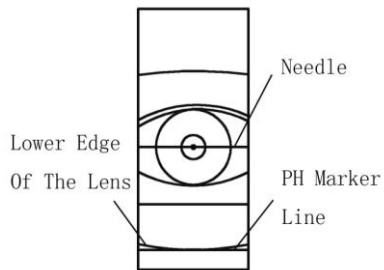

Figure 8
- 4) Align the PH Maker Line(12) on the window to the lower edge of the lens of the patient. Push the PD adjustment slide (left)(7) and let the needle(11) block the reflecting point of the eye (Figure 8). Then the LCD(3) screen will show the PH value of the left eye.
- 5) If you need to measure the right eye, please rotate the device by 180 degrees. Hold the top of the pupilometer with the right hand and support the under part with the left hand. Let the left side of the window align with the right eye of the patient. Use the index finger or middle finger to push the button(6). The needle(11) could block the reflective point of the eye. LCD(3) will show the PH value of the right eye.